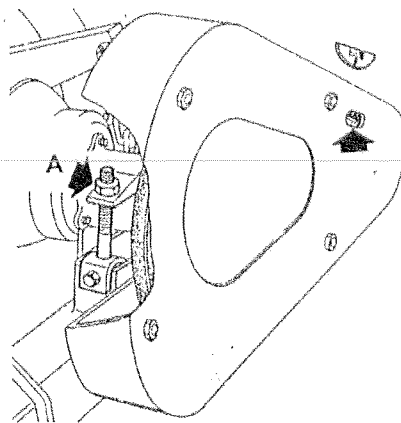

Fig. 32
- Adjust belt tension periodically by adjusting nut (A, Fig. 32). Check tension via the viewing panel on the belt guard. Belt slack must not exceed 2 cm. It is essential to close the inspection hatch with the relative lid after the belts have been examined.